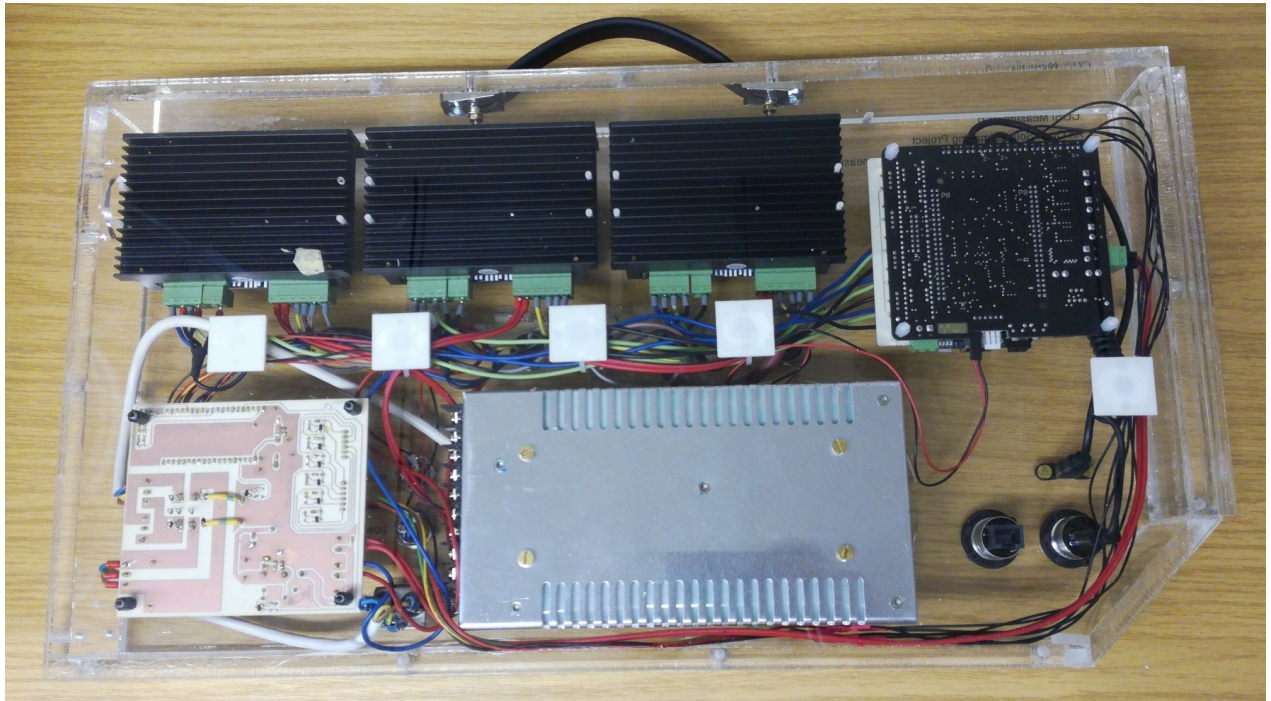

Figure 2 Final electrical setup of COSI Measure inside the casing (back view).
4.1. In order to keep the avoid cable chaos we used mounting bases and cable straps. Attached the mounting bases as indicated in Figure 2 (five white squares) to the casing baseplate.